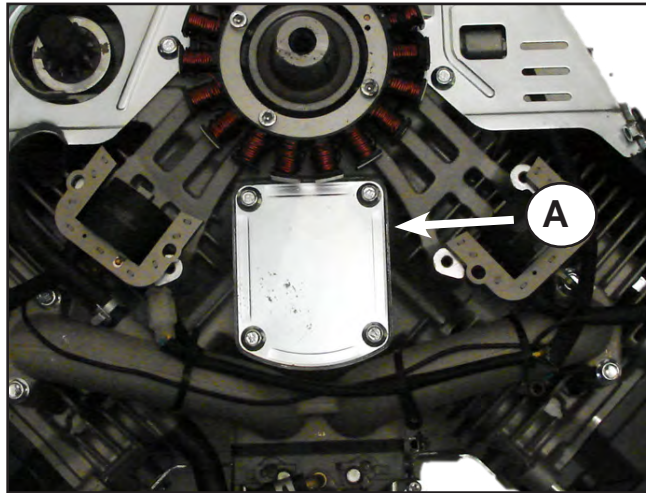

Figure 15
**NOTE:** The breather is located on the top of the engine block between the flywheel and the intake manifold, between the two cylinders. Remove the flywheel to access the breather (Figure 15).